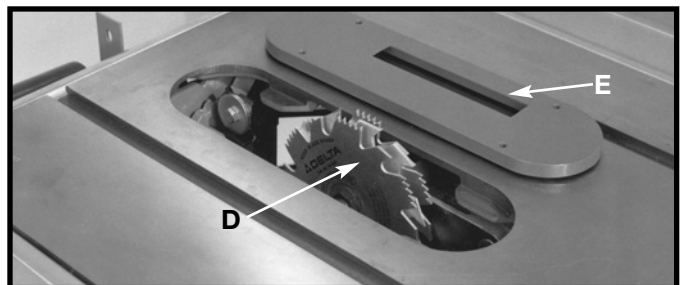

Fig. 47
2. Attach the dado head set (D) Fig. 47, to the saw arbor.
⚠ CAUTION THE ACCESSORY DADO HEAD SET TABLE INSERT (E) FIG. 47, MUST BE USED IN PLACE OF THE STANDARD TABLE INSERT.